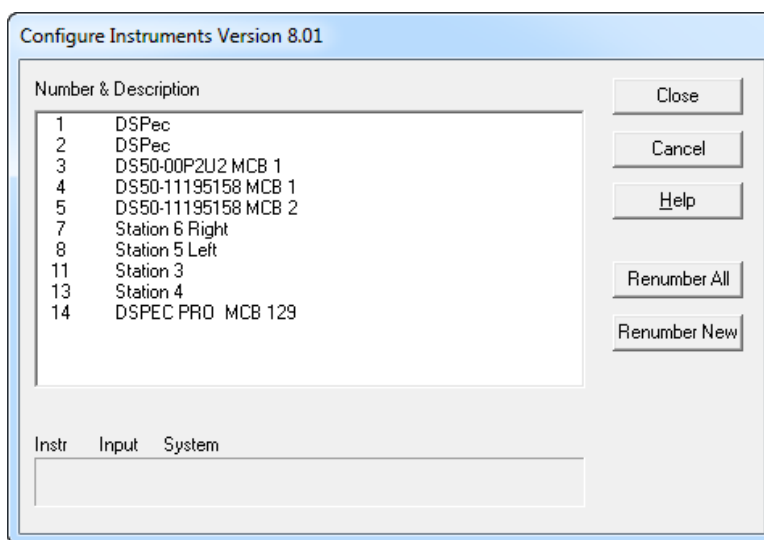

Figure 5. MCB Numbering and Descriptions.
- 3) To start the software, type `mcb` in the “*Search programs and files*” box on the Windows Start menu, then click the **MCB Configuration** search result; or open the Windows Start menu and click **MAESTRO**, then **MCB Configuration**. The MCB Configuration program will locate all of the powered-on ORTEC MCBs on the local computer and the network, and display the list of instruments found (the *Master Instrument List*; Fig. 5). If you wish, you may enter customized instrument ID numbers and descriptions (Section 2.2.4.2). When you close the dialog, any changes you have made to an ID number or description will be written back to the corresponding MCB.